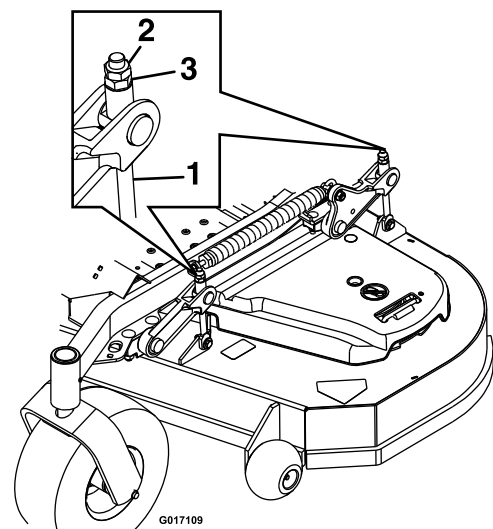

Figure 29
10. Loosen the jam nuts on the top of each deck link. Fine tune the adjuster on the front deck lift assembly by turning it to get 3 inch (7.6 cm) height (see Figure 29).